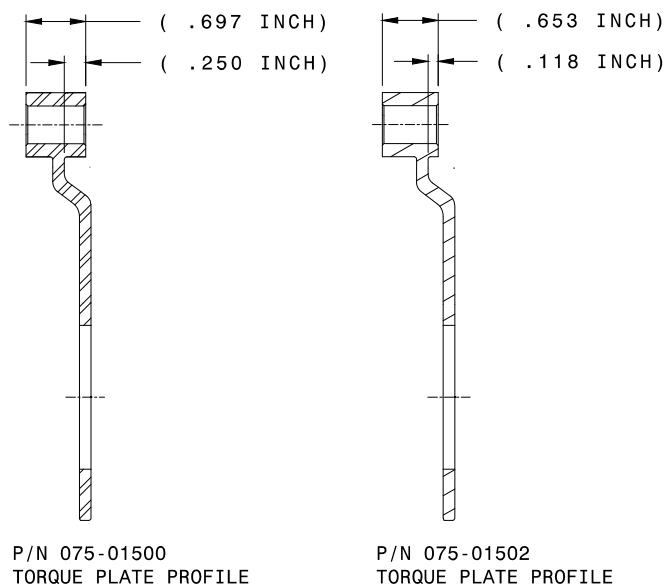

Figure 1 Torque plate comparison
- (1) Torque plate comparison. Refer to Figure 1.